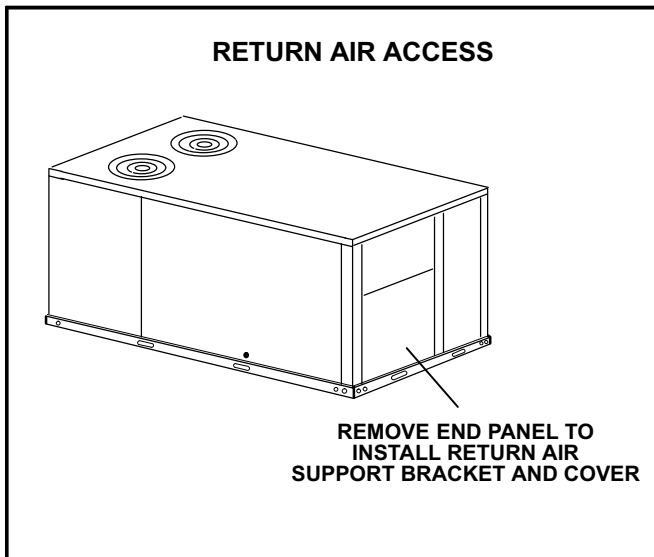

FIGURE 4
- 4- Remove the end panel and install the return air support bracket. See figures 4 and 5. Insert one end of panel onto return air opening crown and rotate to fit the other end in opening.